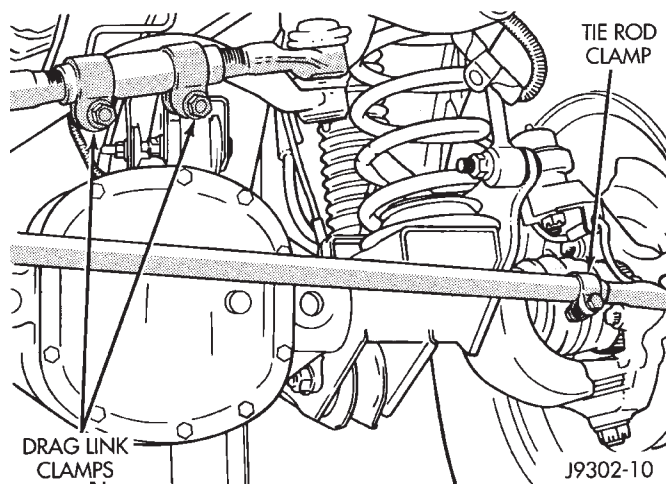
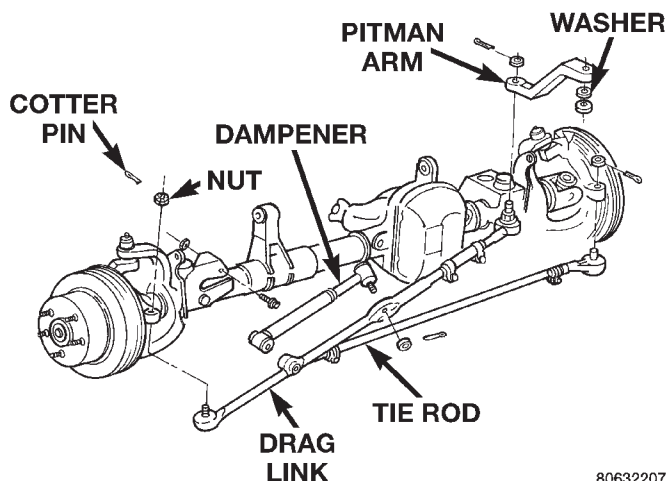
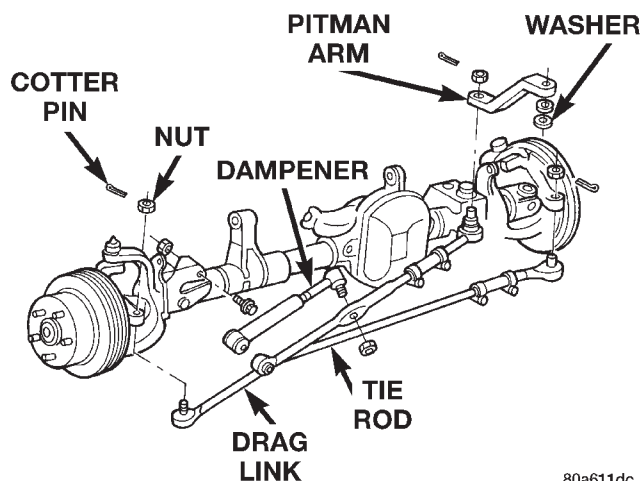

Fig. 2 Drag Link and Tie Rod Clamp
Fig. 3 Steering Linkage—6 Cylinder Engine
Fig. 4 Steering Linkage—8 Cylinder Engine
- (1) Apply parking brakes.
- (2) Start the engine and turn wheels both ways before straightening the steering wheel. Center and secure the steering wheel.
- (3) Loosen the adjustment sleeve clamp bolts (Fig. 2).
- (4) Adjust the right wheel toe position with the drag link (Fig. 3) and (Fig. 4). Turn the sleeve until the right wheel is at the correct positive TOE-IN position. Position the clamp bolts as shown (Fig. 2) and tighten to 49N·m (36 ft. lbs.).
- (5) Adjust the left wheel toe position with the tie rod. Turn the sleeve until the left wheel is within .05° TOE-IN position as the right wheel. Position the clamp bolts as shown (Fig. 2) and tighten to: